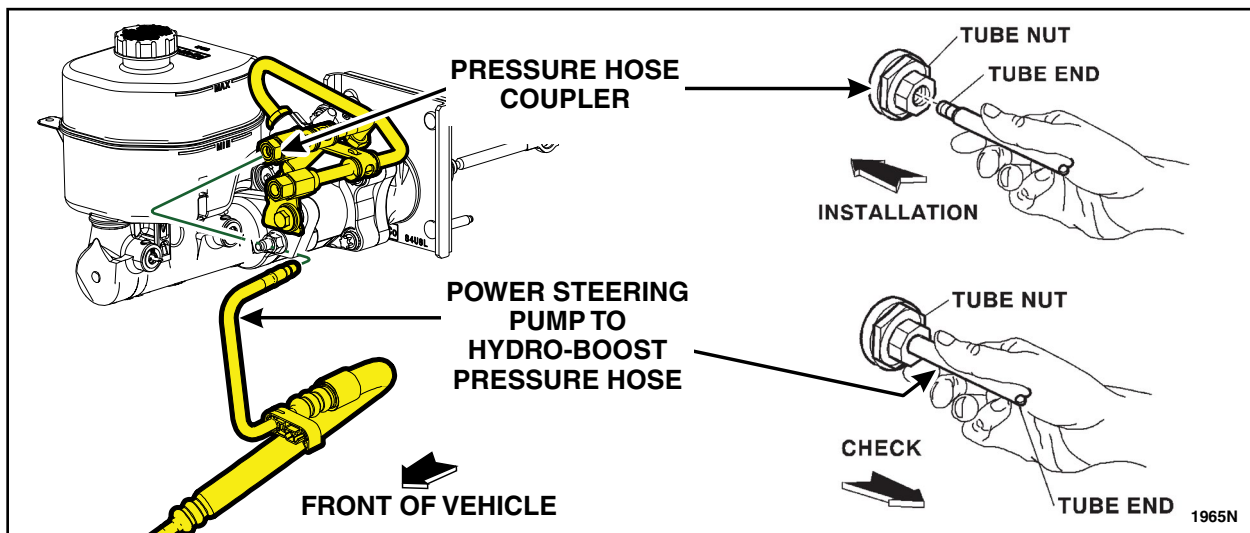

FIGURE 15
9. Connect the *new* power steering pump to Hydro-Boost pressure hose to the coupler on the Hydro-Boost junction. See Figure 15.